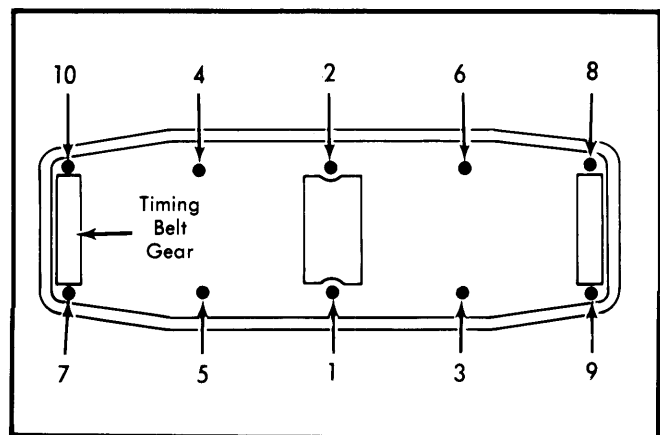
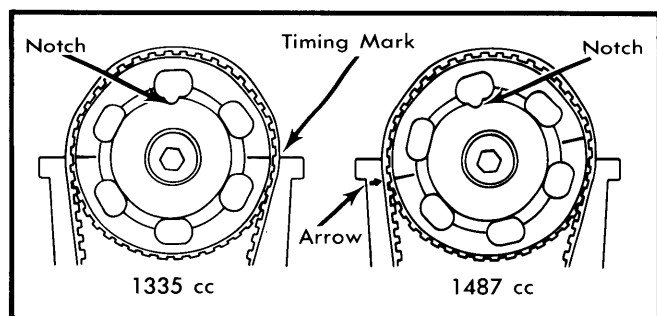

Fig. 1 Cylinder Head Tightening Sequence (Loosen in Reverse Sequence)
Fig. 4 Camshaft Alignment Marks (1335 & 1487 cc Engines)
3) On 1335 and 1487 cc engines, cutout on camshaft gear should be at top. See Fig. 4. On all models, tighten head bolts in 2 steps in sequence shown in Fig. 1.
1) Rotate crankshaft until TDC mark on flywheel or driveplate is aligned with index mark. On 1751 cc engines, "UP" mark on camshaft gear should be at 11 o'clock position and timing mark aligned with arrow on cylinder head. See Fig. 4.